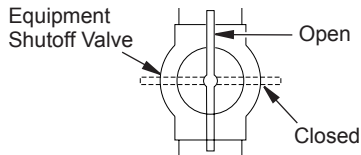

Figure 34 - Equipment Shutoff Valve
1. Close equipment shutoff valve (see Figure 34).
1. Open equipment shutoff valve (see Figure 34, page 24).